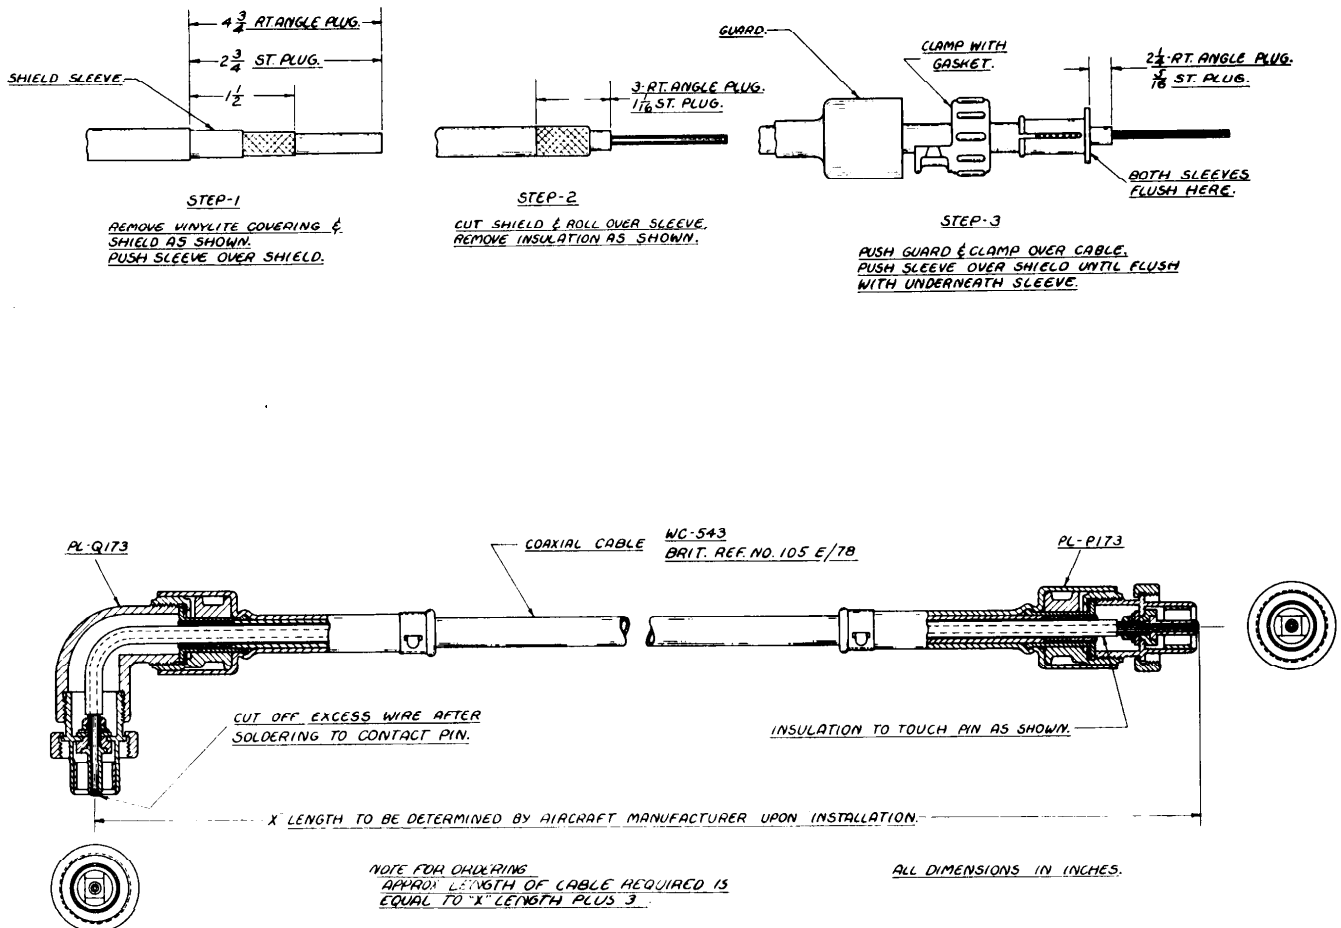

FIGURE 19 — CABLE, RACK TO ANTENNA, ASSEMBLY DRAWING
- (3) Remove the two screws from the clamp assembly of Plug PL-P173 or PL-Q173 (see Figure 19). Remove the smaller section of the clamp. Turn the larger clamp
(6) Complete instructions for assembling Plug PL-P173 or PL-Q173 to the coaxial antenna cable are given in Figure 19.